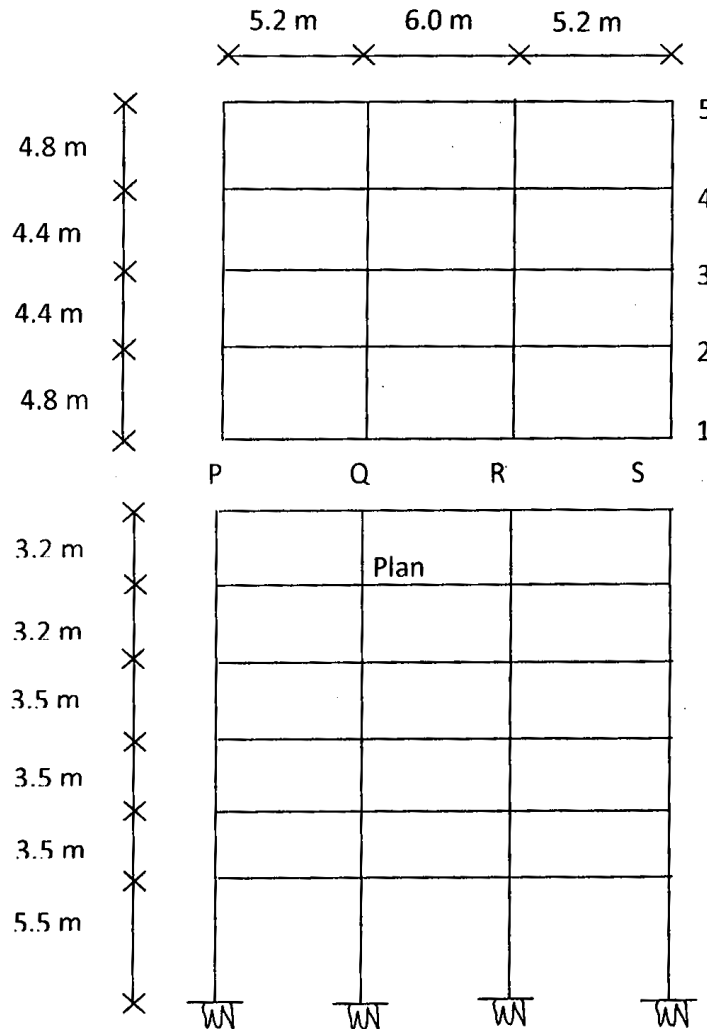

Fig. 1: (Elevation)
- b) Calculate the **design forces due to seismic load at each floor** and the maximum bending moment & axial force in columns & bending moment in beams at 1st floor level of the frame PQRS/3 as stated in problem 1 & Fig.1 by Portal method. 20
- b) Calculate the design forces due to wind load as per IS: 875 at all floor level of the frame **Q/1-2-3-4-5** of the multi-storied building as stated in problem 1 & Fig.1. Evaluate the bending moment, Shear force and axial forces in beams & columns of the frame **Q/1-2-3-4-5 at 2nd floor** level by Portal method. 20